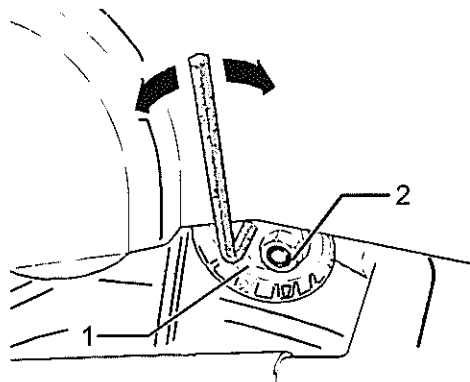

Fig 24 Injection pump – deflection roller
53 If adjustment is required, loosen the securing nut (see Fig 24/2) of the deflection roller (see Fig 24 (1)).
56 Tighten the securing nut (see Table 2, Ser 7) (see Fig 24 (2)).